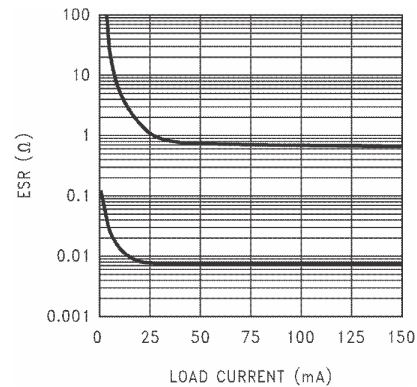
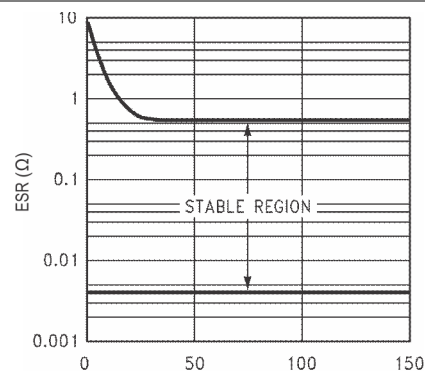

Figure 5-36. 2.2- μF Stable ESR Range for Output Voltage $\leq 2.3\text{ V}$ for Legacy Chip
Figure 5-38. 2.2- μF , 3.3- μF Stable ESR Range for Output Voltage $\geq 2.5\text{ V}$ for Legacy Chip
- ESR range: see Figure 5-36 through Figure 5-38